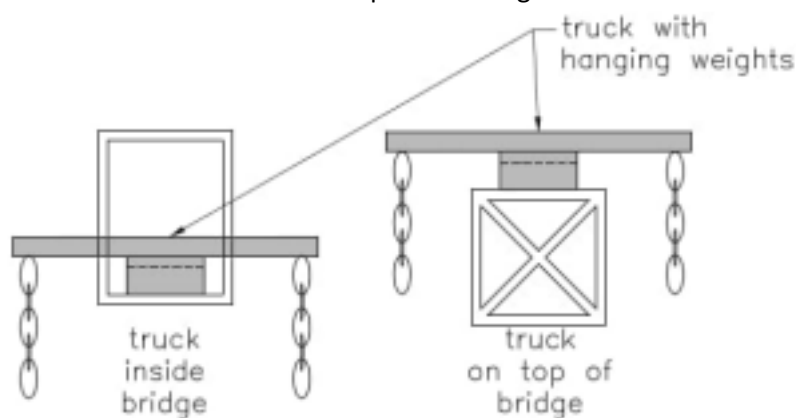

Figure 3a: Different Ways to Load the Bridge - Section Views
- The bridge shall have a roadway that either runs through the bridge or runs over the top side of the bridge. The roadway must be along the entire length of the bridge so that a scale truck (4” wide by 4” tall by 8” long, with a transfer bar above, **see figure 3A and 3B**) could drive from start to end over or through the bridge. The roadway does not need to be a continuous surface, but make sure there are strong supports for the truck to be placed at any point along the bridge roadway length!
Figure 3a is a section view of the truck inside and on top of the bridge.